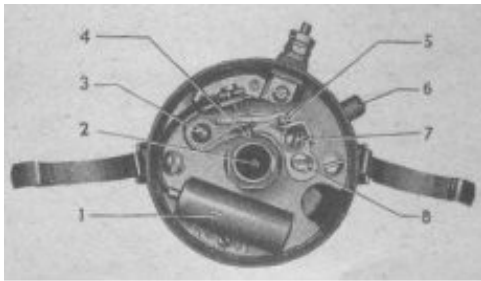

FIG. 7 -- DISTRIBUTOR
The oiler on the distributor should be lubricated every 1000 miles with several drops of engine oil, Fig. 7, No. 6. Also place one drop of light engine oil on the wick, No. 2 located in the top of the shaft, which is accessible by removing the rotor arm and sparingly apply soft grease on the breaker arm cam No. 4, and a drop of oil on the breaker arm pivot, No. 3. See PROPOER MAINTENANCE for Fig. 7.
- Remove the distributor cap and inspect the contact points. Adjust the points to .020" (0.51 mm.) gap. See Fig.7 No.5.